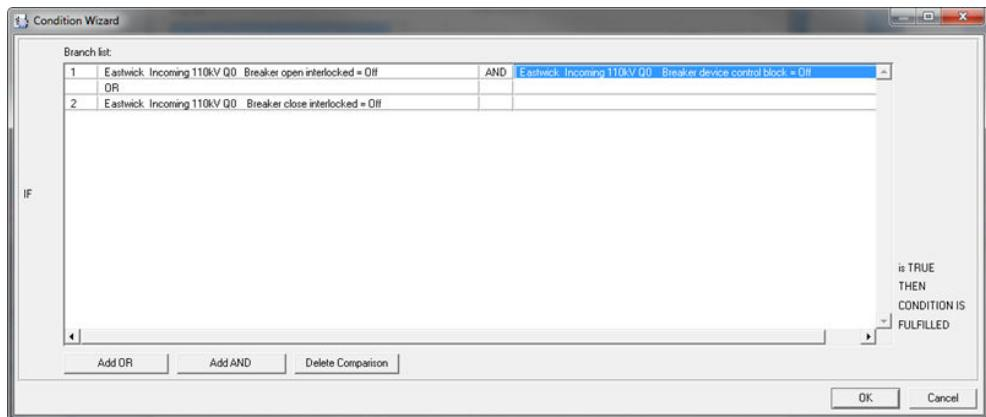

Figure 97: Condition wizard
4. Edit precondition with the help of the condition wizard (see Figure 97)
9. Edit postcondition in help of the condition wizard (see Figure 97)